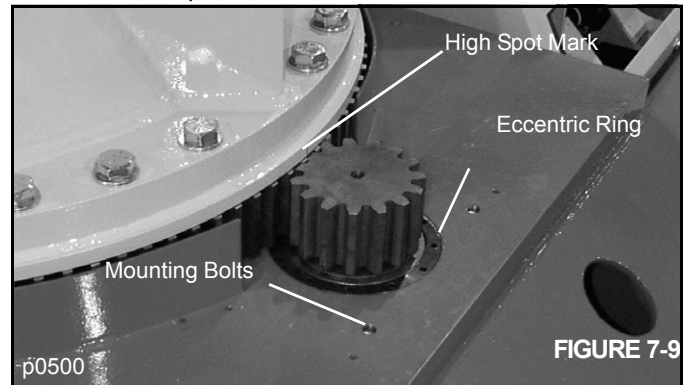

FIGURE 7-9
(Figure 7-9). The high point is punch-marked on the metal base plate.
4. Slightly loosen the four bolts securing the rotation gearbox (see Figure 7-9).